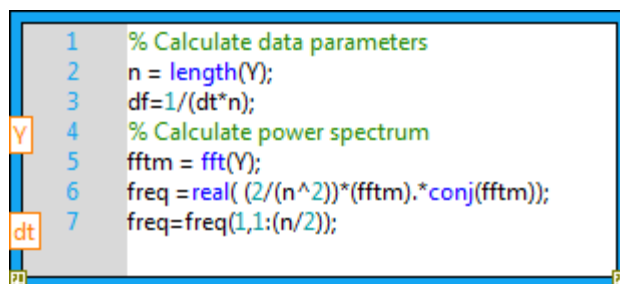

Figure 40. You can paste any .m script functions into the MathScript Node to perform text-based math in-line with your graphical code.
19. Left-click inside the MathScript Node then press Ctrl+v to paste the text. Your MathScript Node should look like Figure 40.